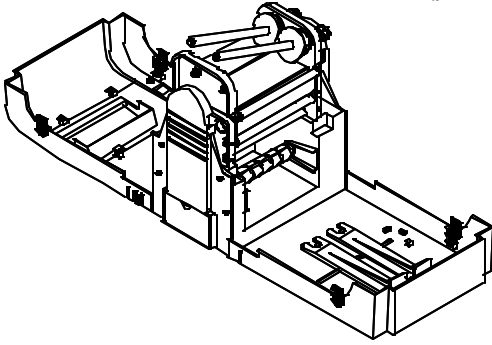

Fig. 2.2.2
4. By pressing toward the cap-side, take out the ribbon supply spindle (part 21) and the rewind spindle (part 12). (see figure 2.2.2)